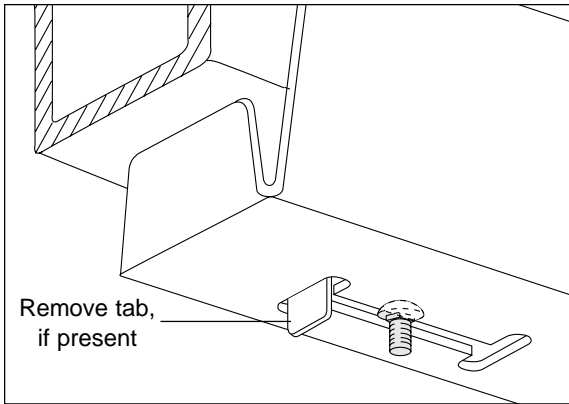

Figure 3
1. Place backer plate (D) on the top of the air spring (A).
2. Install 90° elbow fitting (E) to the top of the air spring. Tighten finger tight plus 1 and $\frac{1}{2}$ turns. Be careful to only tighten on the metal hex nut. Do not over tighten.
3. Set the upper bracket (B) onto the air spring (A). Make sure that the air fitting port is on the same side as the vertical leg. Attach the bellow-bracket assembly using $\frac{3}{8}$ " bolt (F) and $\frac{3}{8}$ " lock washer (G). Tighten to 20 ft-lbs (Figure 3).
- b. Insert a $\frac{1}{2}$ " carriage bolt (K) into the jounce bumper track with the carriage head inside the track (Figure 3).
- c. Some models may have a small tab at the end of the slot that will interfere with upper bracket mounting (Figure 3). This tab will need to be removed. Either bend it back with a hammer or grind it off.